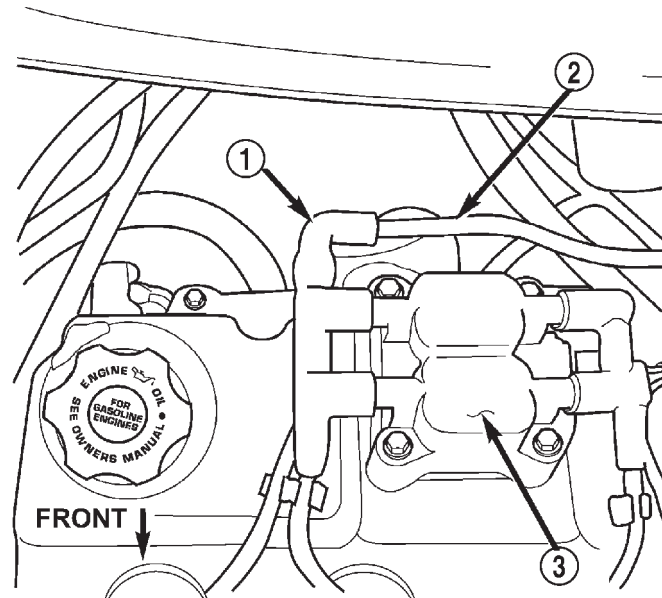

FIGURE 2
4. Disconnect the nylon make-up air tube from the elbow on the rear of the engine (Figure 2). Discard the make-up air tube.